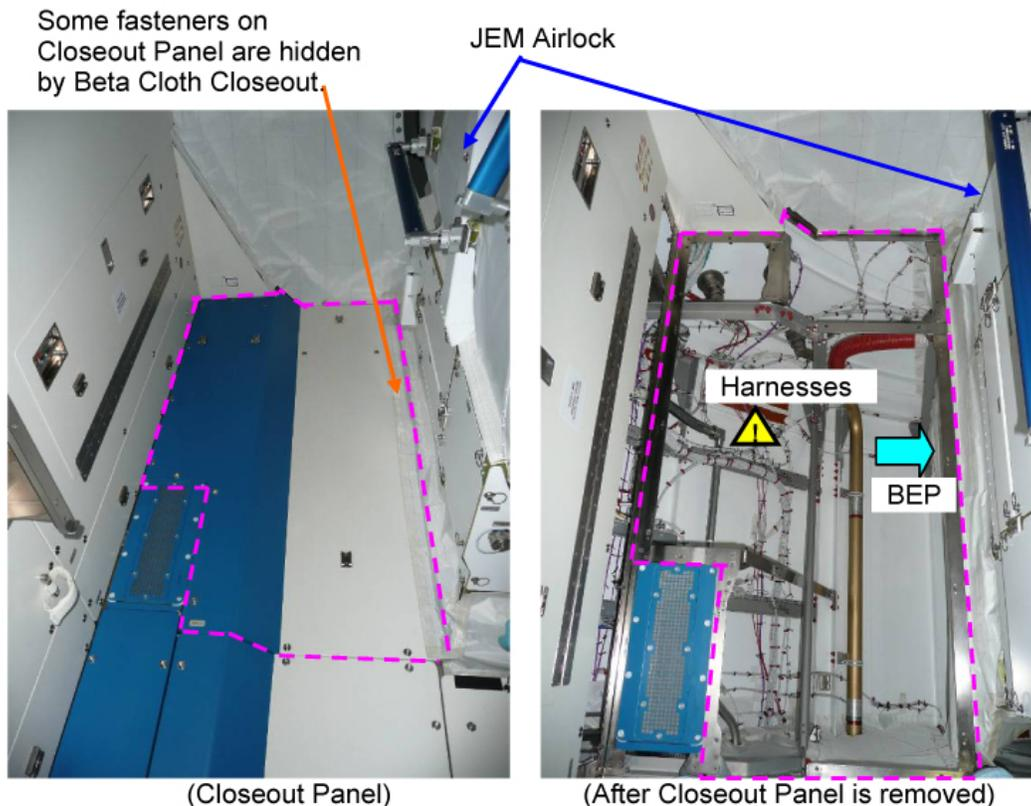

Figure 4. Closeout Panel JPM1D7-07 to Access BEP.
2.2 Partially remove Beta Cloth Closeout attached to Closeout Panel JPM1D7-07 at side of JEM Airlock, Velcro. Refer to Figure 4.
- 2.3 Remove Closeout Panel JPM1D7-07, fasteners (nineteen) (Ratchet, 1/4" Drive; 5/32" Hex Head, 1/4" Drive). Temporarily stow. Refer to Figure 4.